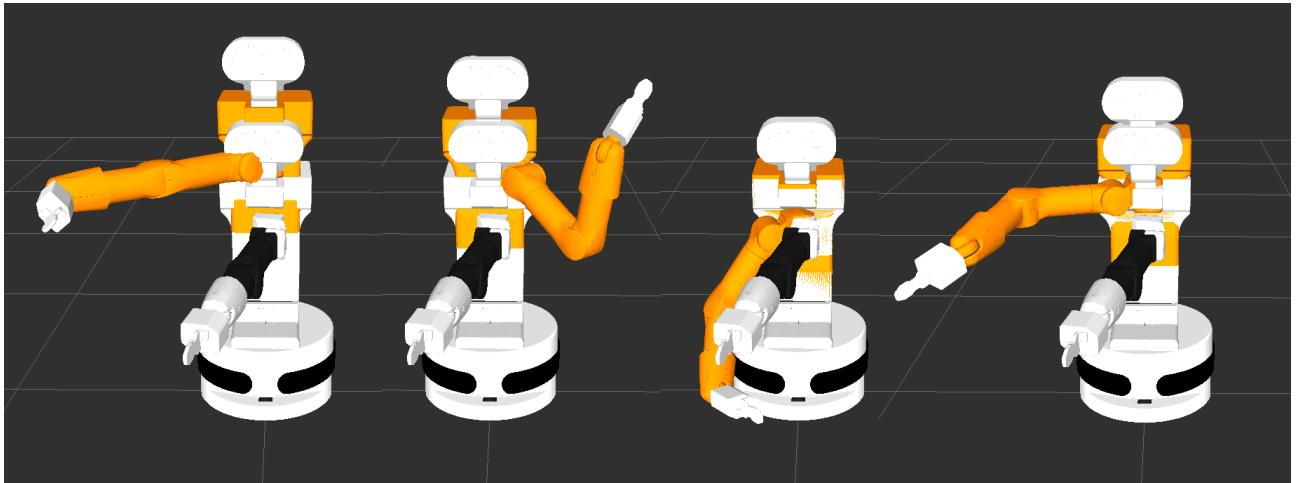

Figure 128: Random poses generated with the GUI
4. By clicking the “Update” button of the Goal State, new poses can be randomized. Figure 128 shows a few randomly generated poses.